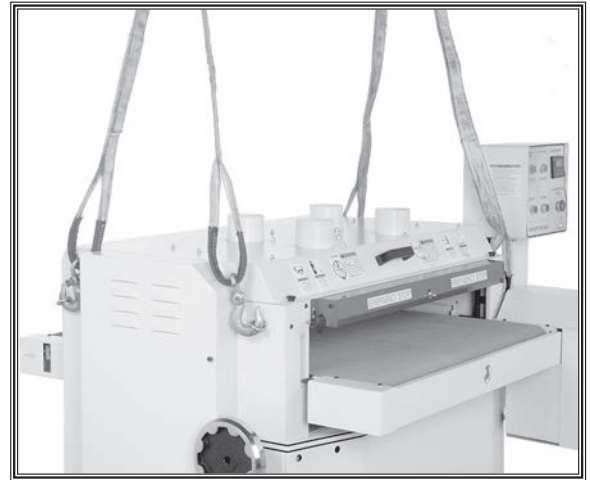

Figure 14. Lifting the sander.
2. Position the forklift forks directly above the sander. Place two lifting straps with hooks on the ends over the forklift forks and slide the hooks into the eye-bolts shown in **Figure 14**.